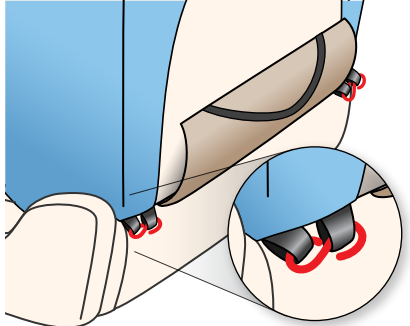
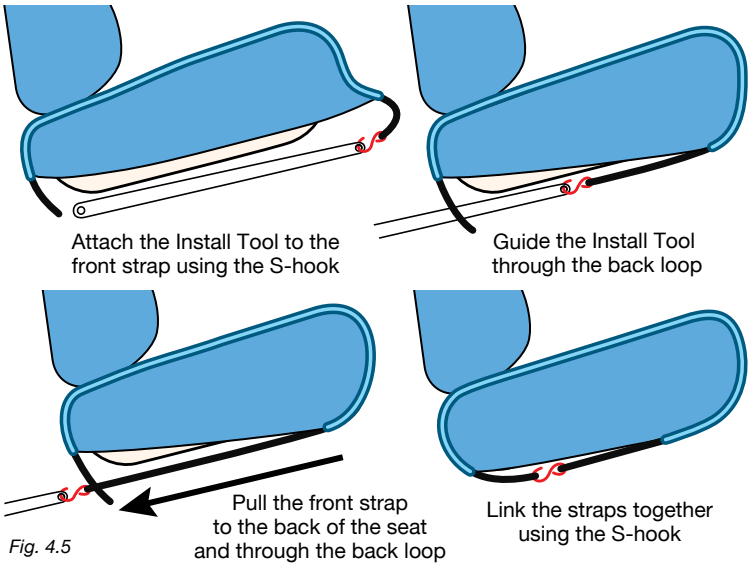

Fig 3.8 Hook to Loop
Fig. 4.5
F: Use the S-hooks to connect the straps to the small loops on the back of the backrest cover. There are 2 methods to connect the straps (Figs. 3.8 and 3.9).
(Fig. 3.8) (Most common) Use the S-hook attached to each front strap to connect to the corresponding small elastic loop on the back of the cover.
F. The elastic straps on the front and rear of the seat cushion will be fastened together under the seat cushion using only one S-hook (Hook-to-Loop as shown in *Fig. 3.8, Page 4*). Attach the Install Tool to one of the front straps using the S-hook. Using the Install Tool, pull this front strap under the seat to the back of the seat and then through the back loop. Link the straps together using the S-hook (*Fig. 4.5*). Repeat for the other straps.